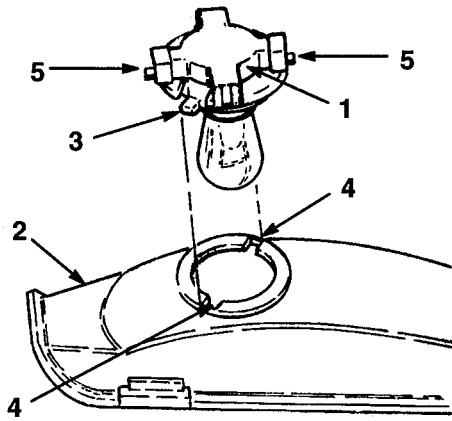

Figure 31
3. Rotate the bulb holder 1/4 turn counterclockwise and remove it from the reflector (Fig. 31).
2. The bulb holder has two tabs (Fig. 31). Align the tabs with the slots in the reflector, insert the bulb holder into the reflector and rotate it 1/4 turn clockwise until it stops.